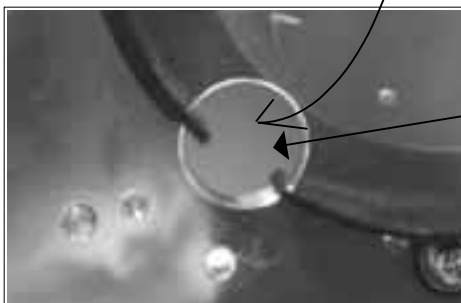

Fig. 6-54
7.	Unplug the SEN3 connector from the PCB and pull through the frame hole. Fig.6-54